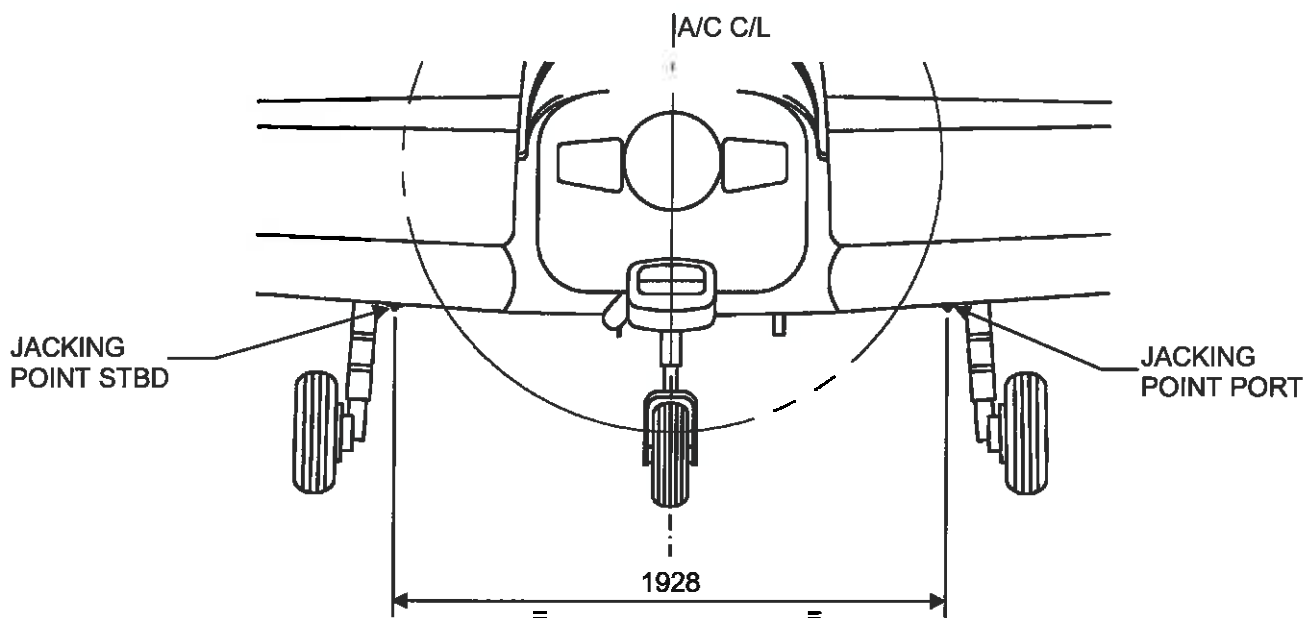

FIGURE 1
- 1 Gain access to underside of wing and inspect for two jacking points 1 port, 1 stbd at positions indicated by Figure 1.